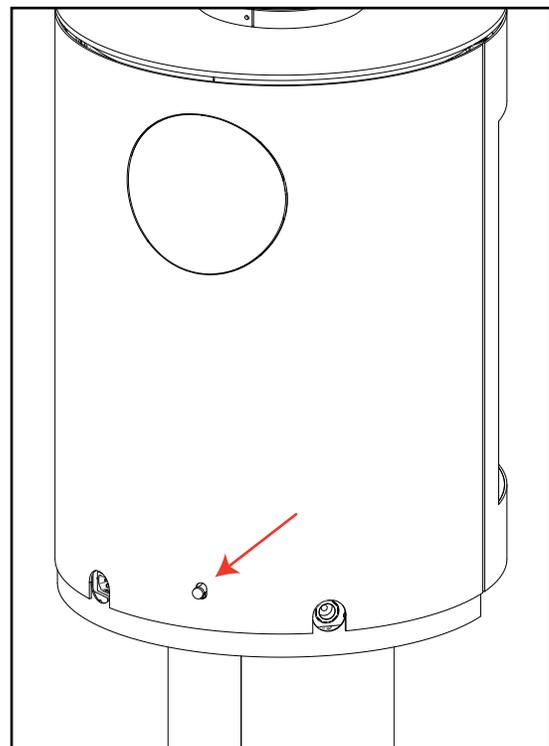

Figure 6: Air Shutter Location
The air shutter slider is located at the back of the unit (see Figure 6).
2. Remove the venturi knob located on the back of the unit (see Figure 6). It can unscrewed by hand and put aside.